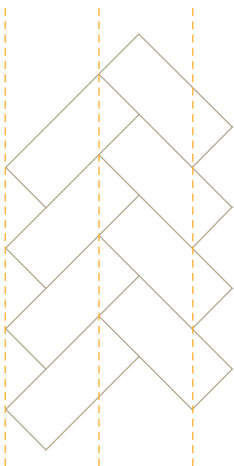

Figure 5: Initial row with reference lines.
- ! Be very careful in laying the initial row correctly and at a right angle, as this is crucial for the rest of the installation process and the end-result. Use reference lines to maintain the direction, as minor inconsistencies quickly spread to the rest of the floor. See figure 5.